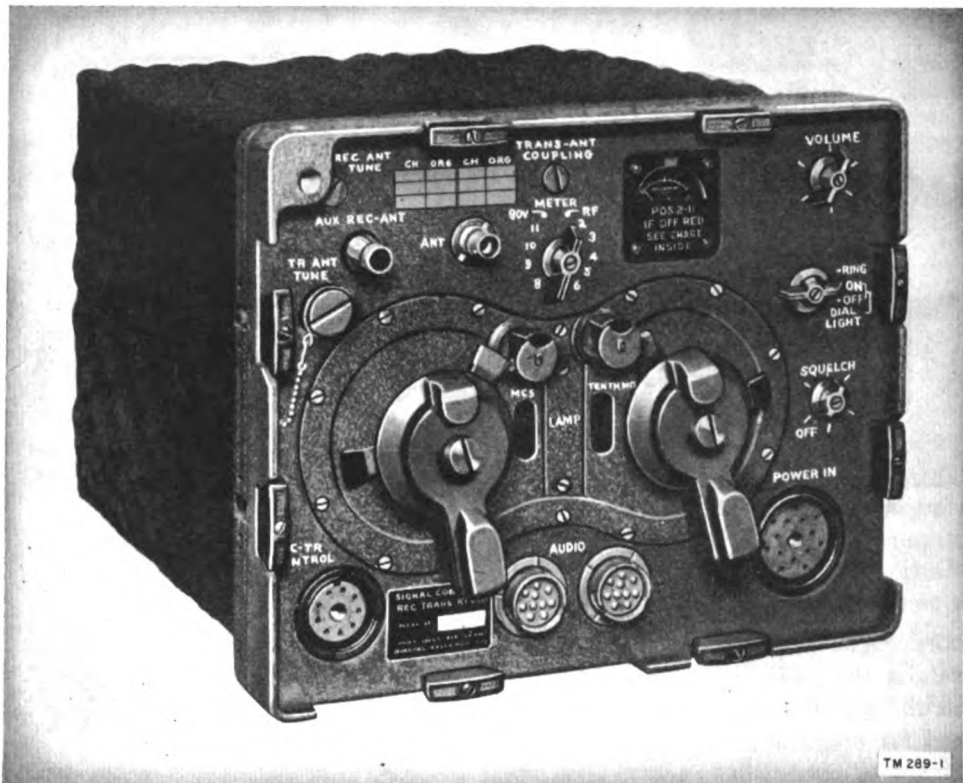

Figure 4. Receiver-Transmitter RT-66/GRC.
each other only in their operating frequency range and in the components which determine the frequency range. Hence, Receiver-Transmitter RT-66/GRC (fig. 4) is similar externally to the other receiver-transmitters except for the calibrations of the tuning dial and nameplate designation. Characteristics pertinent to system operation are listed in paragraph 5; complete information on the receiver-transmitters is contained in a separate technical manual.
d. Mechanically, the receiver-transmitters are panel-chassis assemblies inclosed in a metal case (fig. 4). The bottom of the case is fitted with